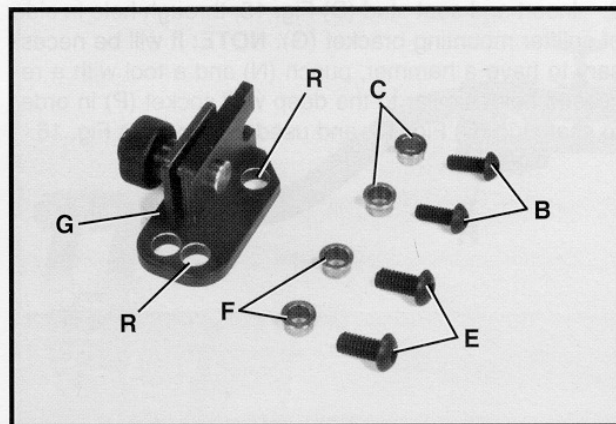

Fig. 20
6. Locate two bushings each, (C) and (F) Fig. 20, two 1/4-20 x 5/8" button head screws (B); two 5/16-18 x 5/8" button head screws (E) and splitter mounting bracket assembly (G). **NOTE: Bushings (C) with the smaller I.D. hole and two 1/4 x 5/8" long screws (B) are used when mounting the splitter bracket to the Delta 10" Tilting Arbor Saw and the 10" Contractor's Saw. Bushings (F) Fig. 20, with the larger I.D. holes and two 5/16-18 x 5/8" long button head screws (E) are used when mounting the splitter bracket to a 10" Unisaw.**
7. Depending on what saw you are using, insert two bushings (F) Fig. 20, into holes (R) in the splitter mounting bracket.